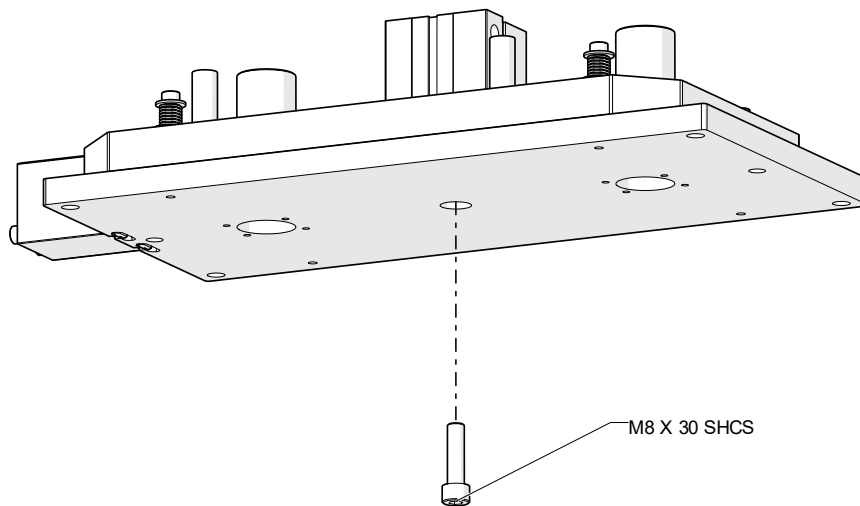

Figure 8: Removing M6 X 30 SHCS
Step 3: Remove Bottom M6 X 30 SHCS as shown in Figure 8